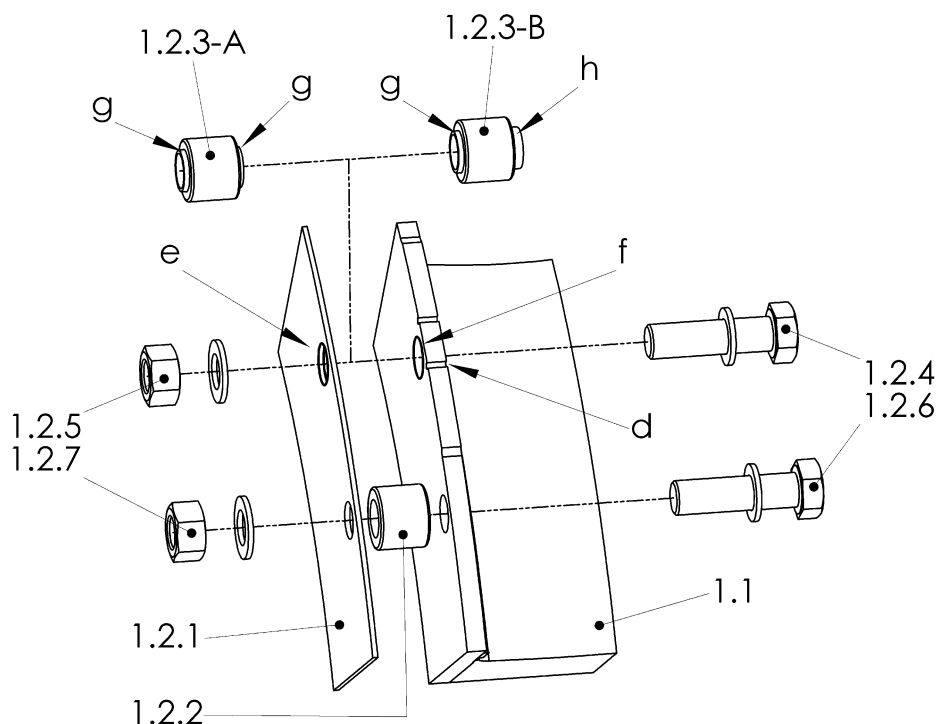

Fig. 6-8 Detail X: Connecting the rubber element and the membrane
- Connect the rubber element (1.1) and the membrane (1.2.1), see Fig. 6-8, Detail: X .